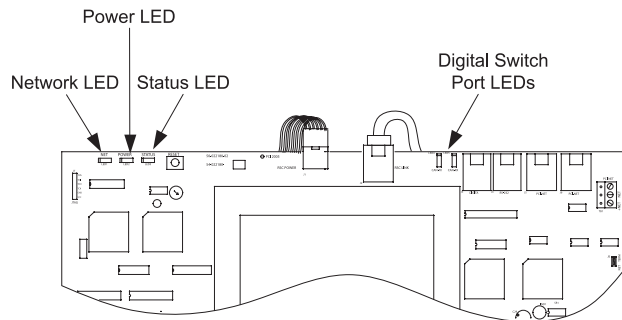

Figure 12. Status LED Indicators CKT
There are three (3) system status LEDs that are located in the upper left corner of the ControlKeeper T. There are two additional LEDs located in top middle of the board that diagnose digital switch communications. Please refer to Figure 12 for location of these status LEDs. These status LEDs will indicate proper operation or potential problems with the ControlKeeper T. Normal operation includes the following LED states.